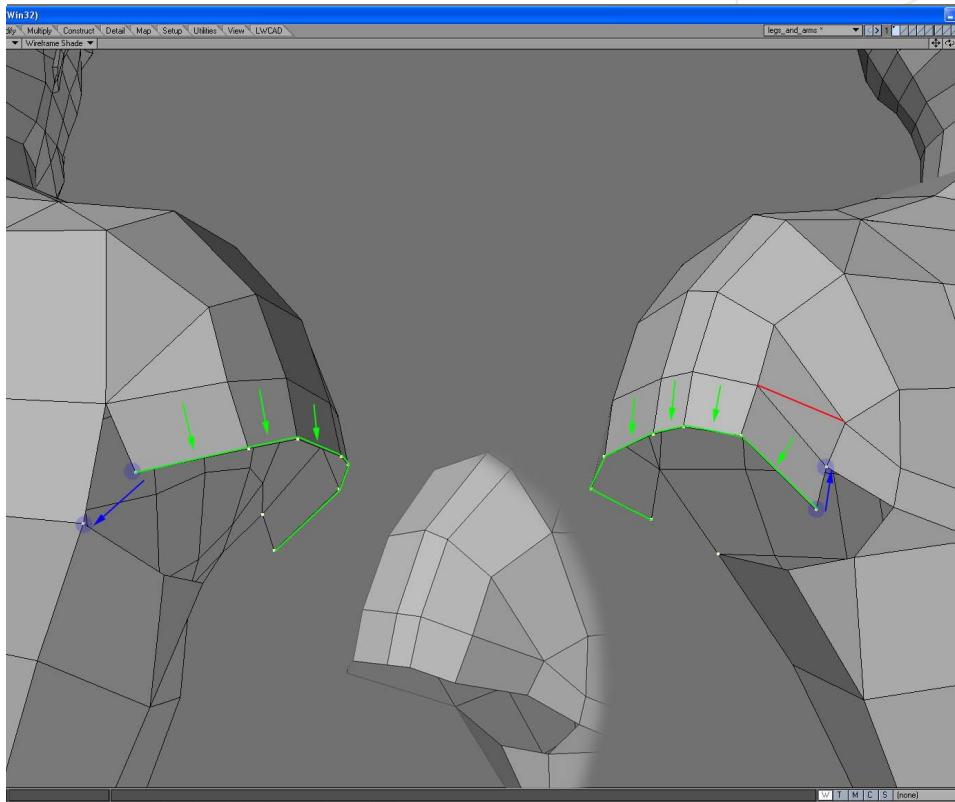

Fig13
10. Extrude the edges once again and weld the vertexes like shown on the left of Fig13. With the Knife tool, make a cut, as shown on the top right of figure, then "un-triangulate" the two selected polygons. Delete the polygon, as shown on the bottom right of the figure.
13. Extend the line, shown by the green line in Fig 13, one more time and weld the two point pairs marked blue. Add a cut to the polygon above (marked by a red line) and, finally, merge these two triangles below into a quad. The final result is shown in the centre of the image.
13. Now select only 6 edges (the red edges shown in Fig13). Extrude them and delete the yellow vert from the front and merge the one from the back.